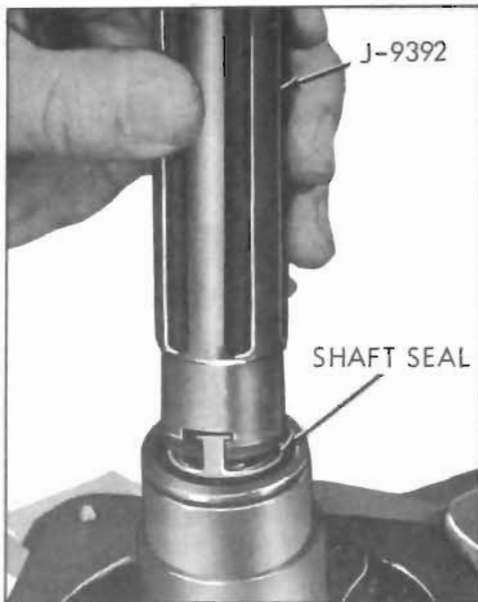

Figure 11-55—Removing or Installing Shaft Seal
7. Using Seal Remover and Installer (J-9392) insert tool into hub of front head, press downward and twist clockwise to engage tabs of shaft seal, and gently but firmly, pull tool straight out (see Figure 11-55).
seal on Seal Remover and Installer (J-9392) and insert in hub of front head (see Figure 11-55).